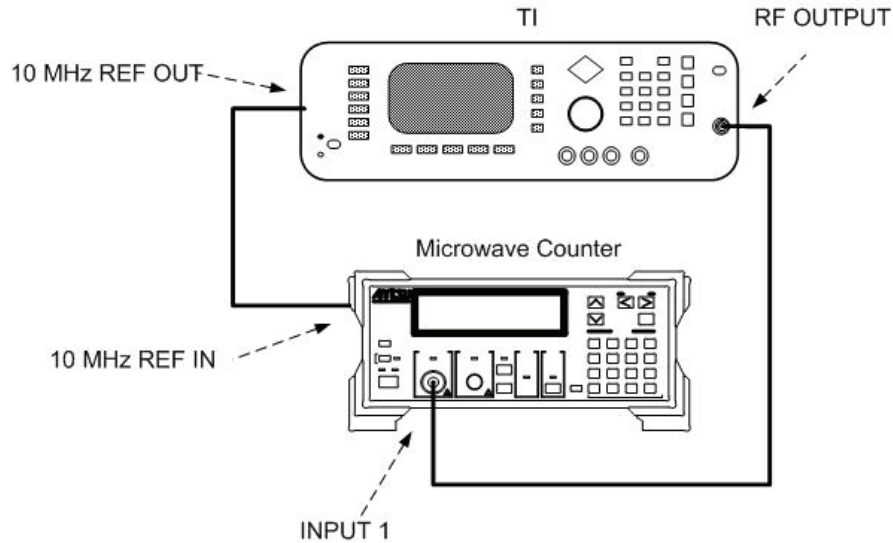

Figure 2. Frequency resolution accuracy hook-up.
- (1) Connect equipment as indicated in figure 2.